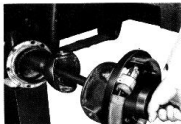

Fig. 11-7
6. Withdraw the front axle shaft together with the associated parts as shown in the Fig. 11-7,